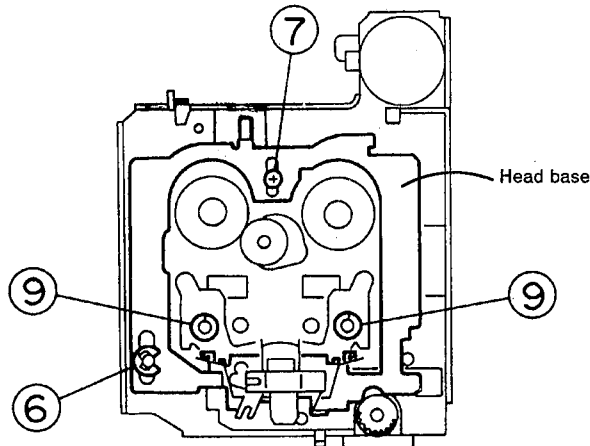
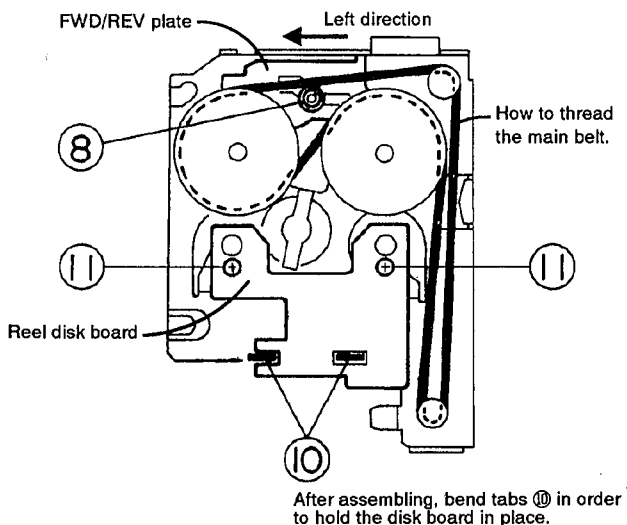
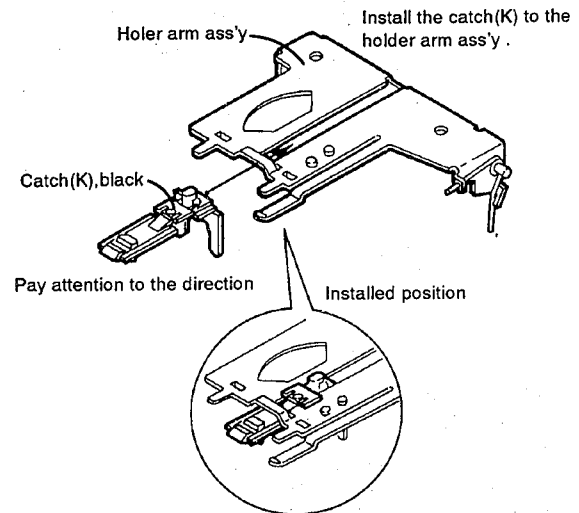

Fig. 4-13
Fig. 4-14
Fig. 4-15
■ Head base (See Figs. 4-13 and 4-14)
- 3) Remove the E washer ⑥ from the left shaft of the pinch roller.
- 4) Remove screw ⑦ for the head base.
- 5) Turn the head base upside down, then remove the C washer ⑧ securing the collar which secures the FWD/REV plate (the collar can also be removed.) (At this time, if the main belt is removed, operation will be made easier.)
■ Flywheel ass'y (See Figs. 4-13 and 4-14)
- 3) Remove two C washers ⑨ attached to the capstan shaft (remove both the right and left washers).
■ Reel disk board ass'y (See Fig. 4-14)
- 1) Straighten the bent tabs ⑩ holding the reel disk board.
- 2) Remove two screws ⑪ fixing the reel disk board.
■ How to assemble the cassette holder and sub chassis (See Figs. 4-15 through 4-18)
Step 1. How to install the catch (K)